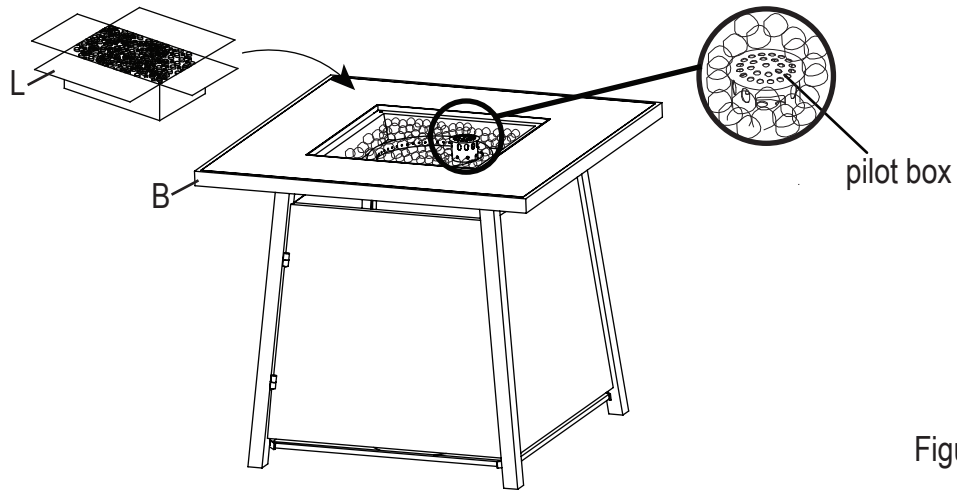

Figure 9
9. Open the box of lava rocks, put the glass beads (L) into the fire bowl of the fire table (B), (see Figure 9). A gas fire pit requires 11 lbs glass beads.